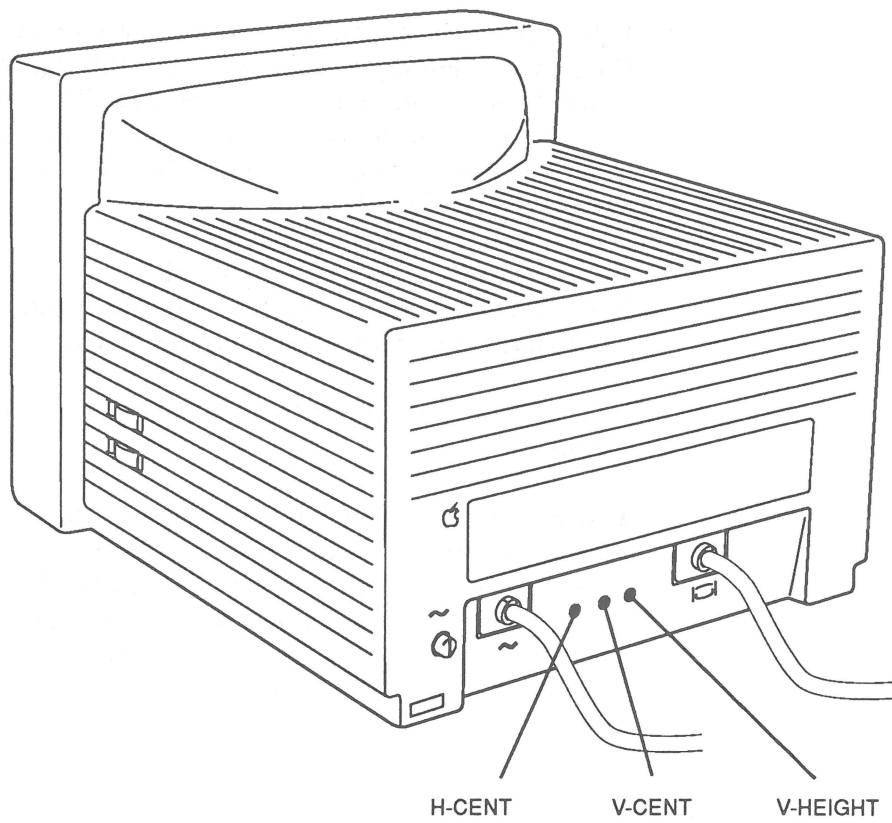

Figure 3-11 Size and Centering Adjustment Controls
2. **Figure 3-11.** Using the plastic adjustment tool, turn the V-HEIGHT control (VR404) until the raster is 153 mm (± 2 mm) or 6 1/16" ($\pm 1/16$ ") high.
2. **Figure 3-11.** Using the plastic adjustment tool, turn the V-CENT control (VR403) until the raster is positioned in the approximate center of the screen.
2. **Figure 3-11.** Using the plastic adjustment tool, turn the H-CENT control (VR503) until the raster is positioned in the approximate center of the screen. **If the raster cannot be positioned in the center of the screen, set the H-CENT control at midrange (of the control) and perform the following steps.**